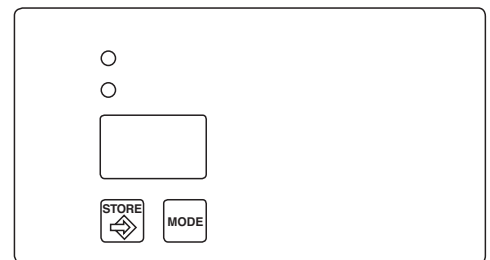

Fig.6-3 Chair Preset Panel
- (2) Press and hold down the “Store” SW (about 2 seconds)(Fig.6-3).